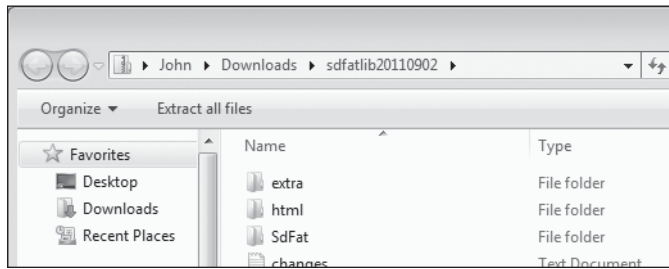
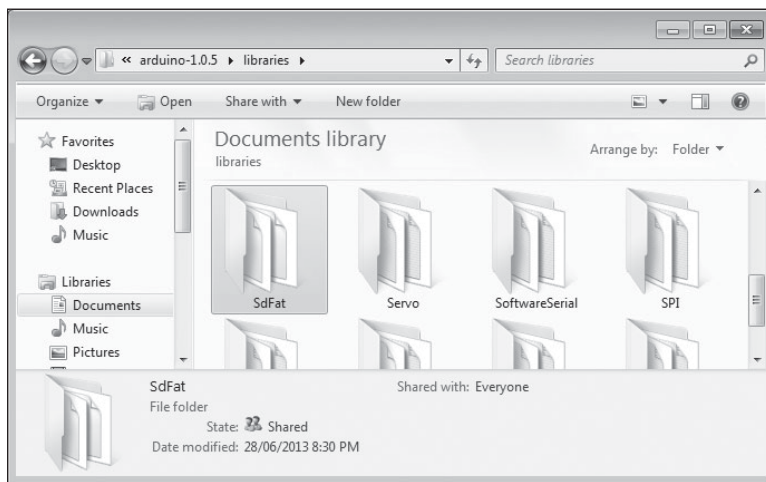

Figure 8-19: Downloaded library folder
Figure 8-20: Completed library installation
1. After the download has completed, open the downloaded file folder to reveal its contents, and then locate the *SdFat* folder, as shown in Figure 8-19.
2. Copy the *SdFat* folder from the window shown in Figure 8-19 to your *Arduino/libraries* folder, as shown in Figure 8-20.